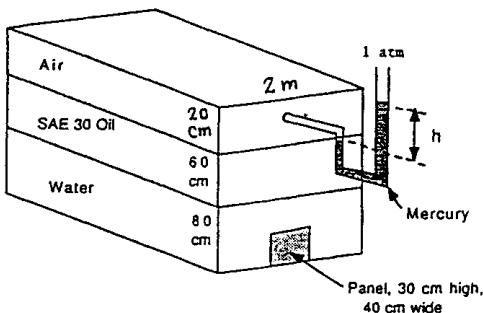

Fig. P2.80
- 2.80** For the closed tank of Fig. P2.80, all fluids are at 20°C and the air space is pressurized. If the outward net hydrostatic force on the 40-cm by 30-cm panel at the bottom is 8450 N, estimate (a) the pressure in the air space; and (b) the reading  $h$  on the manometer.